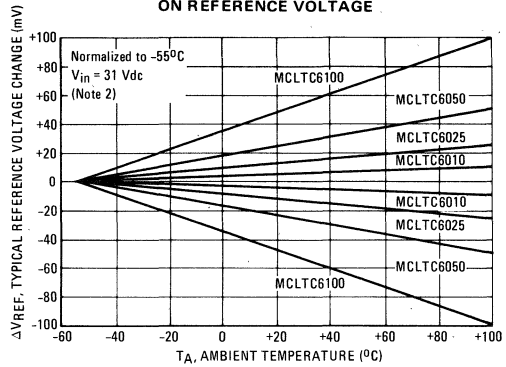

FIGURE 4 – TYPICAL CURRENT REGULATING CHARACTERISTICS (Current Regulator Only)
(2) These curves can be used to determine the typical voltage change of any device in the series over any specified temperature range. For example, a temperature change from 0 to +50°C will cause a typical voltage change no greater than +16 mV or -16 mV for MCLTC6050.
(3) Figure 4 applies only to the FET portion of the device (from Input to Reference).